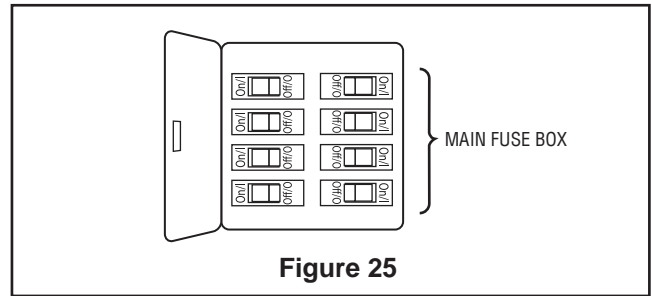

Figure 25
1. Restore electrical power to the outlet box by turning the electricity on at the main fuse box (Figure 25).